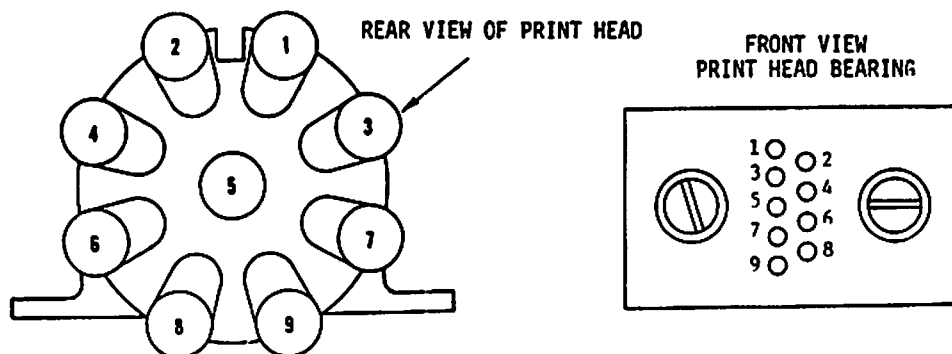

FIGURE 5-9 IDENTIFICATION OF SOLENOIDS
- 3) Turn the solenoid to be adjusted in or out while watching the solenoid wire at the bearing (Figure 5-9).